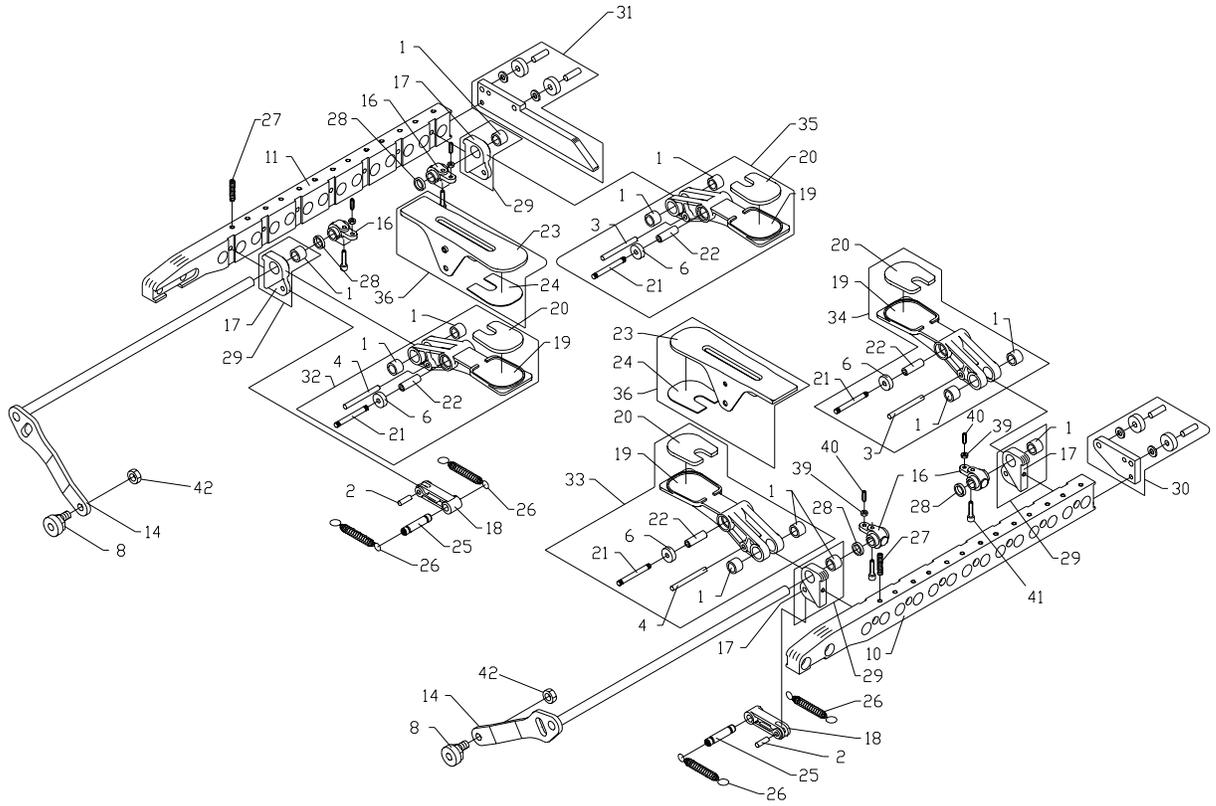

Figure 7-32
Refer to Figure 7-32 and proceed as follows:
1. Be sure the actuator arm retaining screws (Item 41, Figure 7-32) have been tightened to 90 in-lb.
2. Loosen the jam nuts (Item 39, Figure 7-32) holding the adjustment setscrews (Item 40, Figure 7-32) in place.
8. Using the inserted stacks of paper as feeler-gauges, set the opening of each clamp by turning the adjustment setscrews (Item 40, Figure 7-32) in or out. For best results, use the retention force on the clamp furthest from the sealing belt as a guide for each clamp.
- Loosen the clamp retaining screw (Item 41, Figure 7-32).
- Turn the adjustment setscrew (Item 40, Figure 7-32) until it is centered in its travel.
- Rotate the actuator arm (Item 16, Figure 7-32) around the shaft until the adjustment setscrew rests against the clamp opening dowel pin (Item 4, Figure 7-32). Tighten the actuator arm retaining screw 90 in-lb.
10. Once the clamp openings have been set, tighten all the jam nuts (Item 39, Figure 7-32) to secure the adjustment setscrews in place.
3. If the film is not released from this clamp within 8 to 10 keypresses, the eccentric (Item 8, Figure 7-32) needs to be adjusted.
5. To make this adjustment, loosen the 14mm nut (Item 42, Figure 7-32) securing the eccentric to the side clamp lever (Item 14, Figure 7-32).